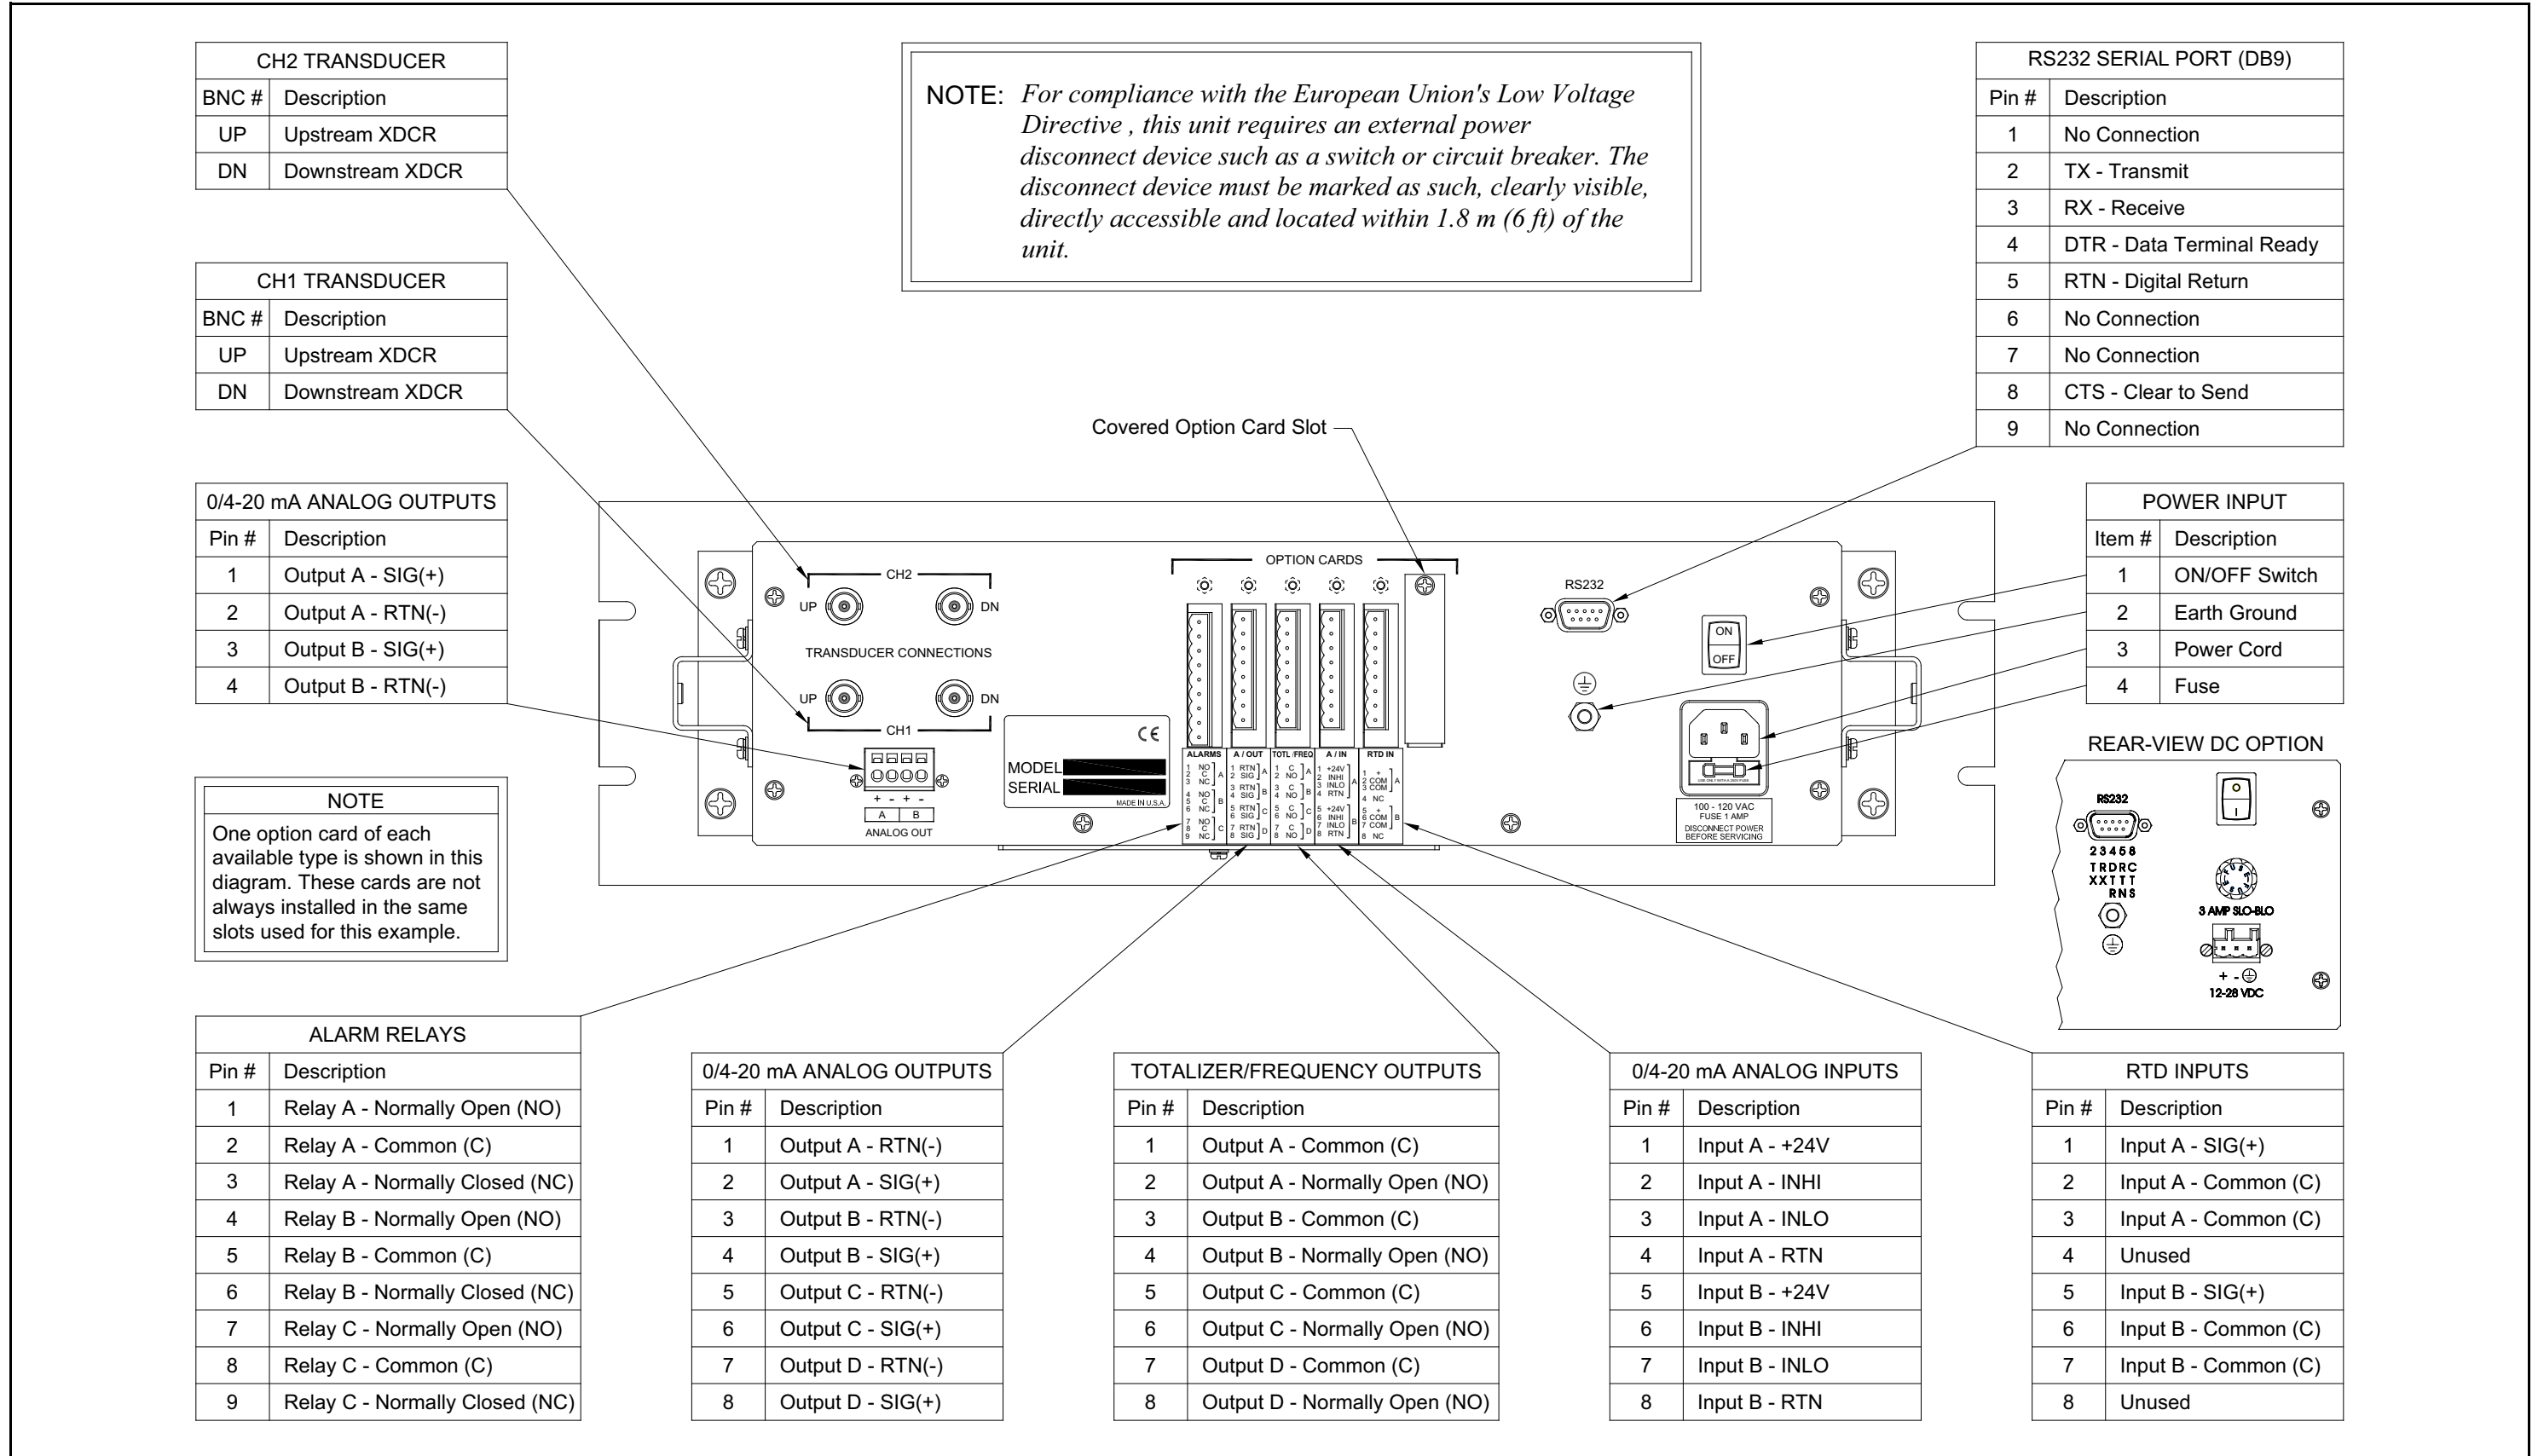

Figure 16: Model GM868 Rack Mount Enclosure - Wiring Diagram
The rack mount Model GM868 requires exactly the same electrical connections as the standard version. However, the locations and type of connectors used for the various components are different. Refer to *Figure 16 on page 54* and complete the following steps:
- a. Purchase or prepare a suitable serial cable. This cable should have a standard female DB9 connector, wired as shown in *Figure 16 on page 54*, for connection to the rear panel of the Model GM868. The other end should be as required for the external device.
5. Wire any installed *option cards* using the same procedures described in Chapter 1, *Installation*, of this manual and the pin # assignments shown in *Figure 16 on page 54*.